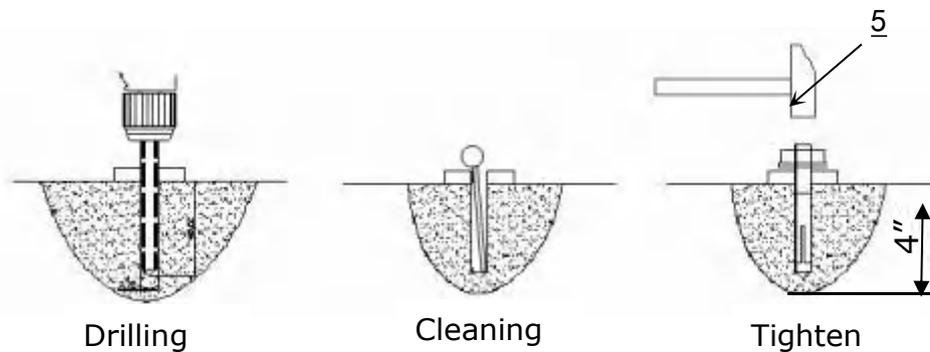

Fig.17
2. Using the prescribed rotary hammer drill, and drill all the anchor holes and install the anchor bolts. Do not tighten the anchor bolts (**See Fig. 17**).